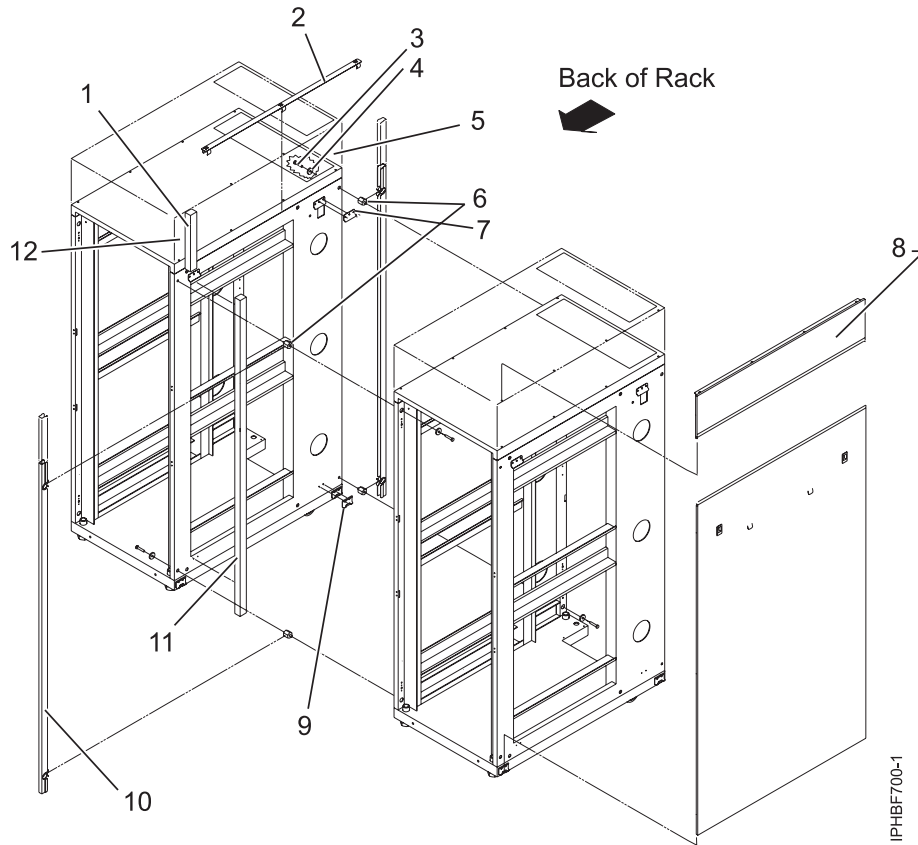

Figure 14. Removing the side panels, Z and J brackets, and installing standoffs and long foam to connect multiple racks.
4. Install the first two standoffs in the upper-left and lower-right corners of the first rack as shown in Figure 14 on page 22.
5. Install the second two standoffs in the upper-left and lower-right corners of the second rack as shown in Figure 14 on page 22.
6. Attach the long foam as shown in Figure 14 on page 22. For a model T42 rack, join the short foam to the end of the long foam, and adhere it to the frame length of the rack.